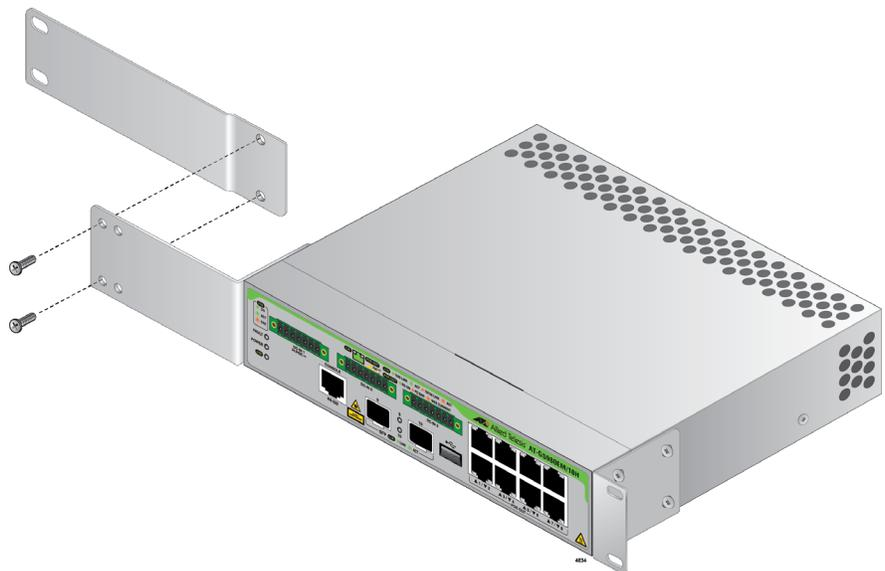

Figure 31. Attaching the Brackets to the Device
3. Attach the long L bracket to the straight bracket. The illustration in Figure 31 shows the installation of the brackets such that the front panel of the device is even with the front of the equipment rack. Refer to “19-Inch Rack Mount Kit” on page 74 to for the correct set of holes to use for the device you are mounting.